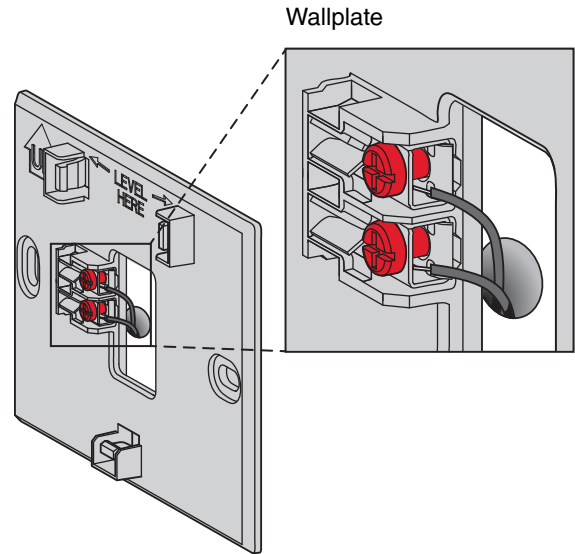

Fig. 317. Inserting wires in thermostat terminal block.
2. Loosen the screws for the appropriate terminals. Insert wires in the terminal block under the loosened screw. See Fig. 317.